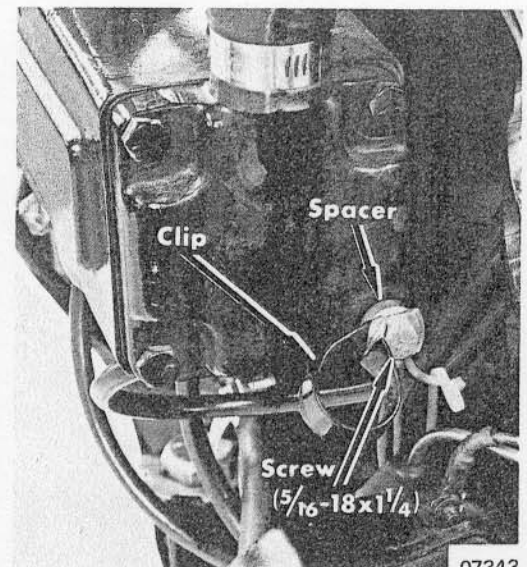

Figure 1. Retainer Clip Position
4. Bend clip to position shown in Figure 1.